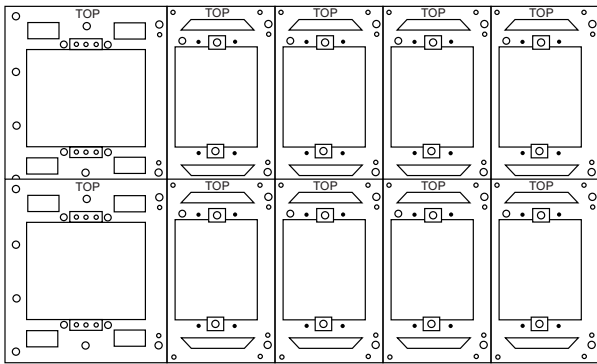

Figure 3. Attach Mounting Boxes
10. Place the top of each lower mounting box over the bottom of each upper mounting box and attach with (2) #6-20 x 1/4" screws per pair of mounting boxes. Refer to **Figure 3**.